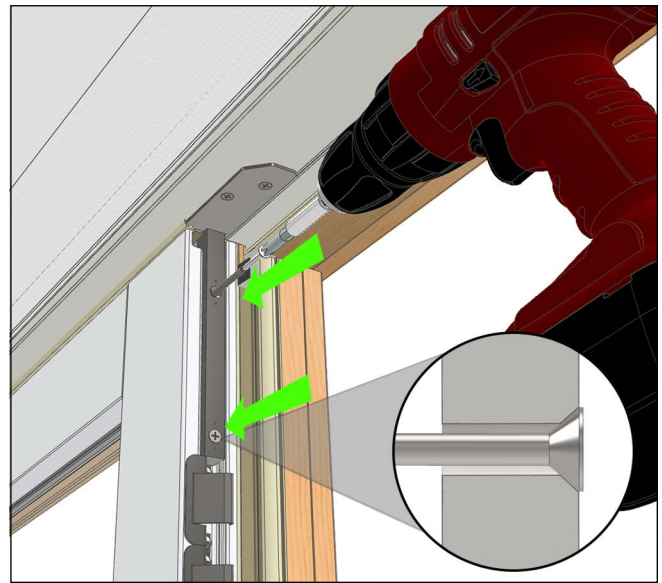

Figure 13
4. Install the 2-1/2" stainless flat head screw into the hole left by removing the panel screw. Fasten until it sits flat with the lock bar face. Drive another 2-1/2" stainless screw into the other hole until it sits flat with the lock bar face. See Figure 13.